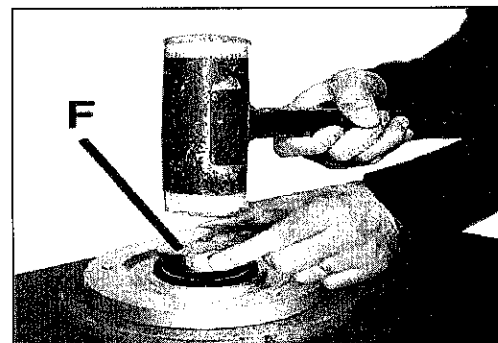

fig. 18
- Position the new radial seal on top of the outer drum separator (the seal spring facing outwards). Insert the seal completely using tool F (*fig. 18*).